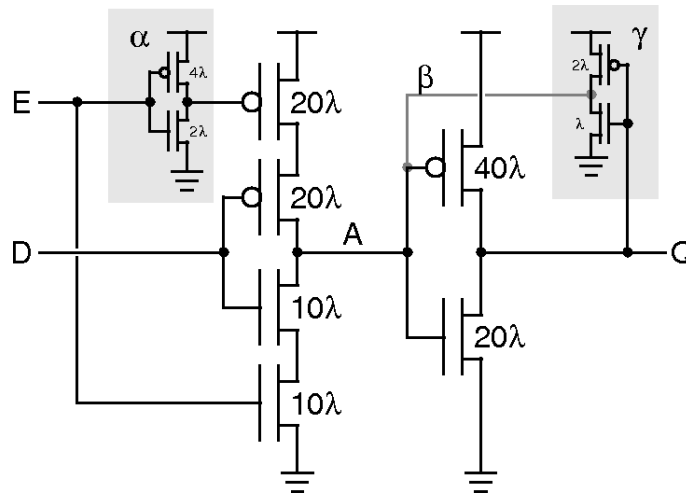

Figure 1: A typical library standard cell schematic.
3. Figure 1 shows a transistor-level schematic for a standard library component. Each transistor has been annotated with its *width* as a multiple of an arbitrary length  $\lambda$ ; the *lengths* of the transistor gates are all the same. The drawn size of the transistors in the figure has no specific meaning; it is for emphasis to reflect their relative widths only. Subsections in this question refer to parts of this figure.
- Taking the output of subcircuit  $\gamma$  into account via the wire  $\beta$ , there are two CMOS outputs connected to point A. This is normally a bad idea so why is this legitimate the circuit in figure 1? (3 marks)
- i) Write a (simple) Verilog statement/block which implements the function performed by the circuit in figure 1. (2 marks)